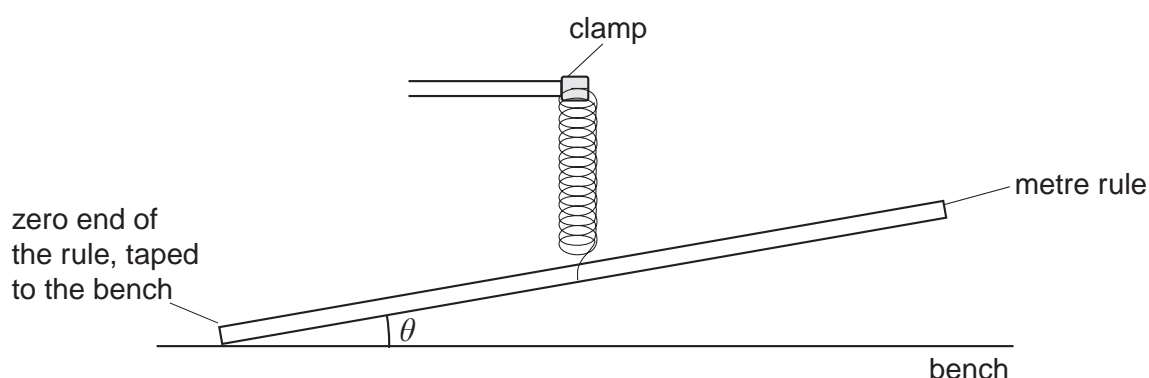

Fig. 1.1
1. The apparatus is to be set up as shown in Fig. 1.1. One end of the spring should be attached to the clamp. The other end of the spring is to be attached with string to the metre rule at the 50.0 cm mark. The string can be taped to the rule so that it does not slip.